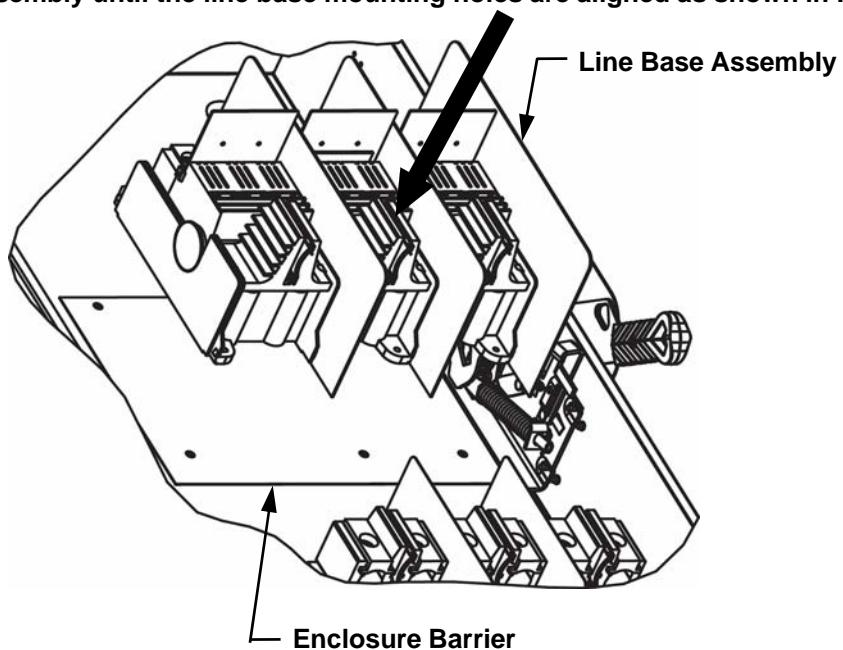

Fig. 15
13. Place the enclosure barrier and line base assembly into enclosure as shown Fig. 15.